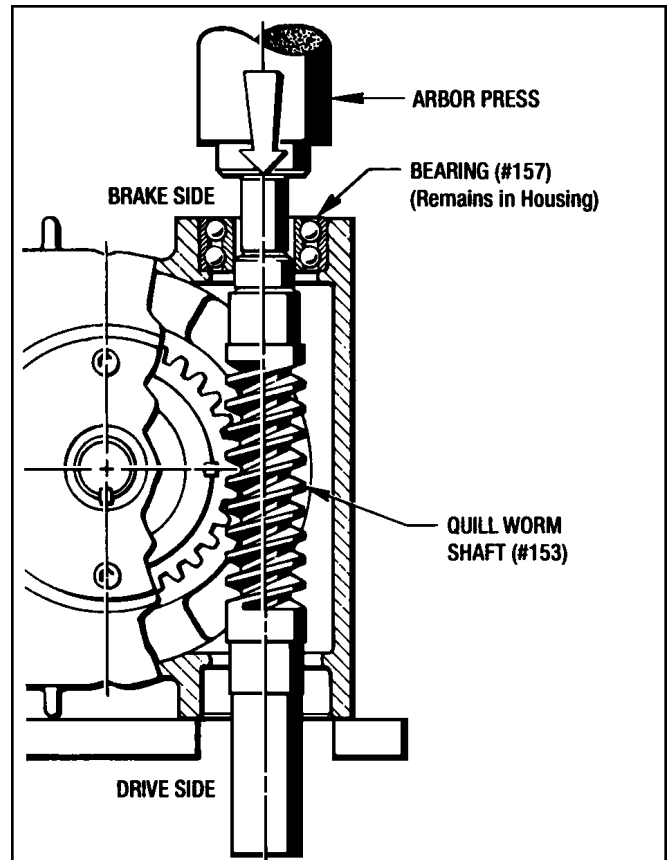

Figure 7.10 - Pressing Bearing (#157) Off Worm shaft
1. On the Brake End, remove (4) Screws (#199) and (4) Lockwashers (#627) and take the Bearing Retainer (#678) off.
5. On the drive side, remove (4) Screws (#199) and (4) Lockwashers (#202).
9. Press the brake end of the Worm Shaft (#153) until the Bearing (#157) slides off the bearing shaft diameter. (See Figure 7.10)